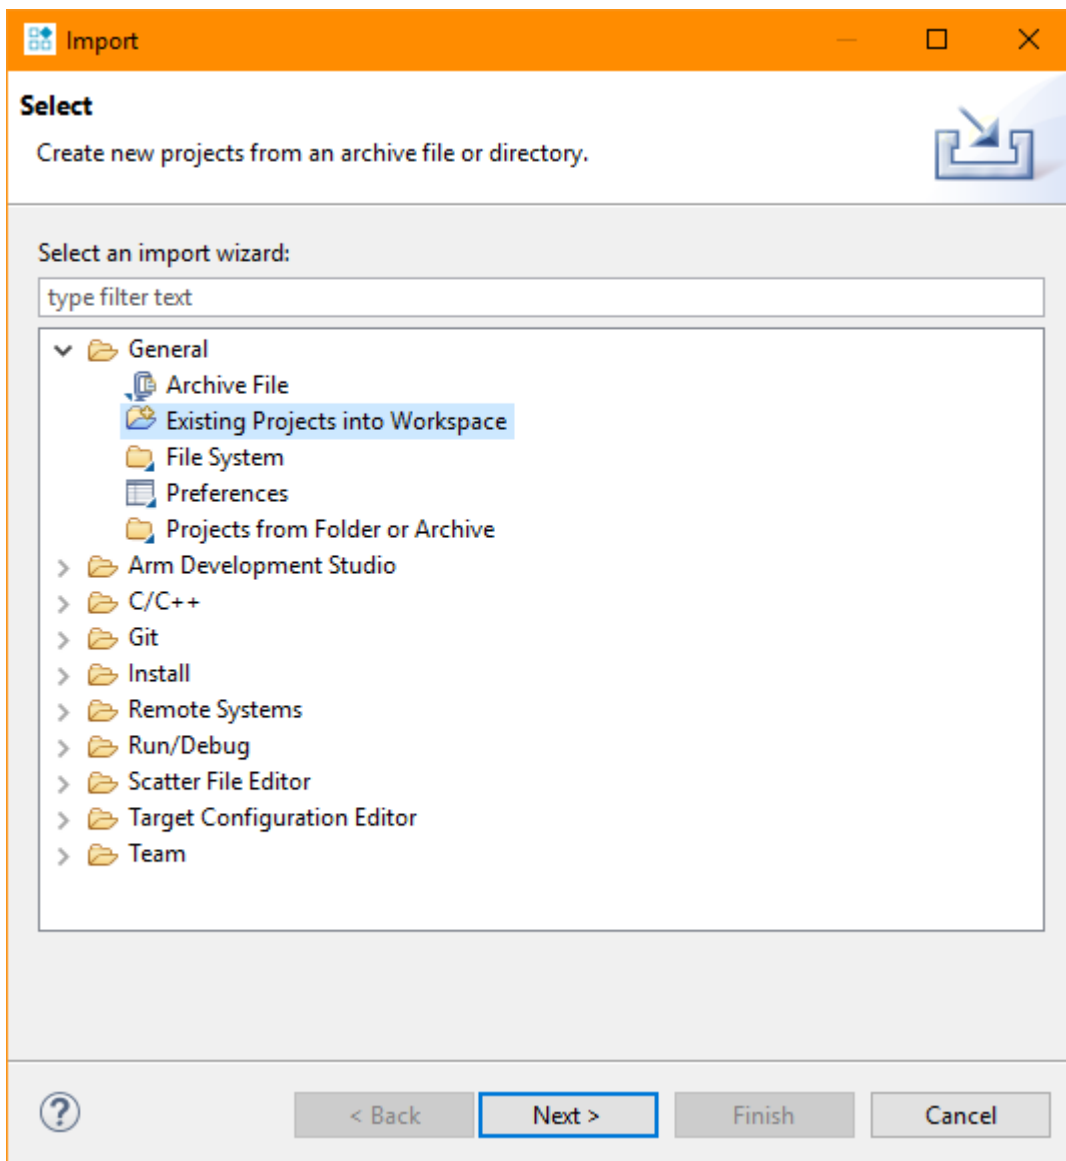

Figure 4 Importing existing Project into Workspace
2. Select **General > Existing Projects into Workspace** in the pop-up window shown in Figure 4